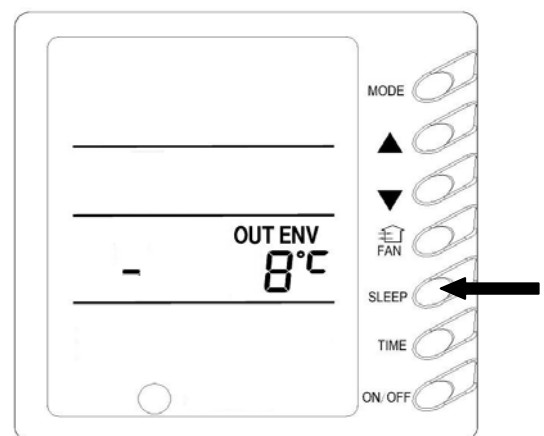

Fig. 10
9) Display of Outdoor Environment Temp. (Fig. 10)